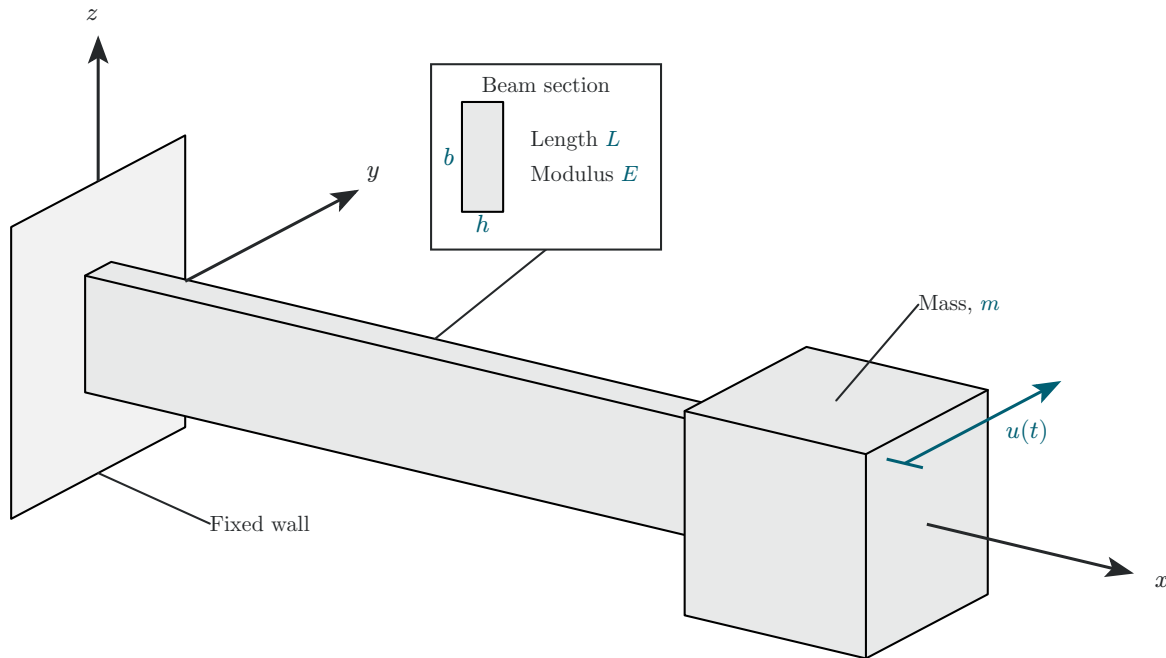

Figure 15: Horizontal flex-beam vibrating system.
Consider a cantilever beam of length L with a mass m attached at its tip as shown in Figure 15. The beam cross-section properties are E , h , b .
- (1) Assume vibration with horizontal time-varying displacement $u(t)$ as shown in Figure 15.
- (2) Calculate the cross-sectional stiffness EI of the beam for flexural deformation consistent with $u(t)$.
- (3) Calculate the flex-beam spring constant k .
- (4) Draw free-body diagram (FBD) including all the forces acting on the mass m .
- (5) Deduce equation of motion (EOM).
- (6) Compare the EOM deduced here with the EOM derived in Problem B.1.
- (7) Solve the initial value problem (IVP) and find the response for simultaneous application of both initial displacement u_0 and initial velocity $\dot{u}_0$.